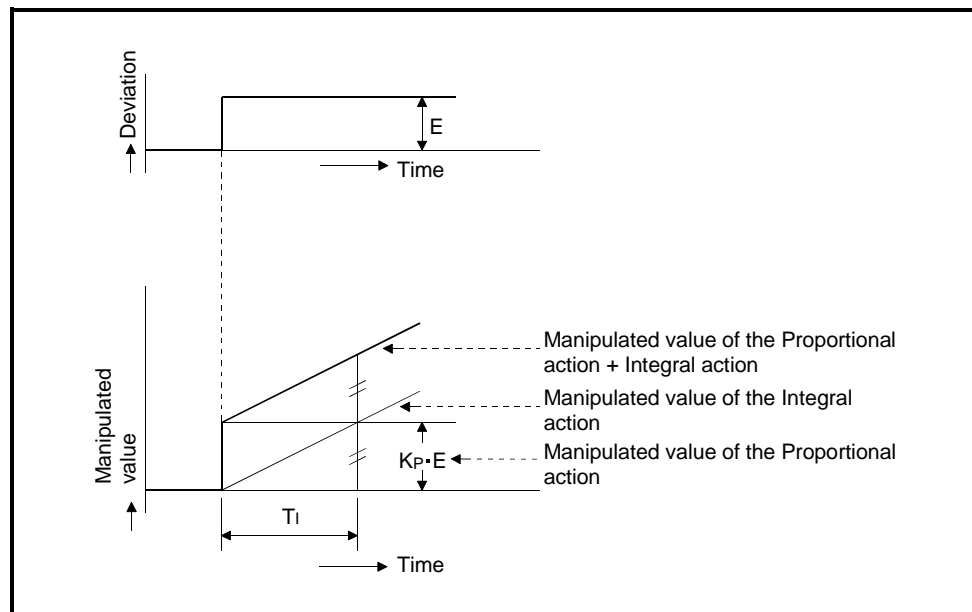

Fig. 1.9 Integral action for step response
- (2) In the integral action, the time from the deviation occurrence until the manipulation value of the integral action becomes that of the proportional control action is called the integral time, and is indicated by T_i .
- (3) The integral action for the step response when the error value is constant is shown in Figure 1.9.
- (4) The integral action is used as a PI action in combination with the proportional action, or PID action in combination with the proportional and derivative actions.